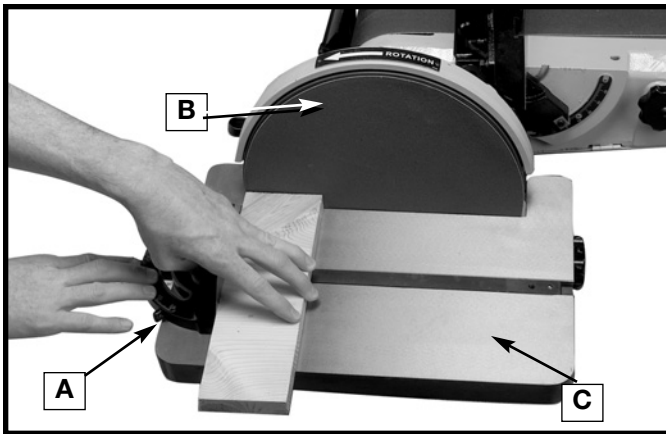

Fig. 48
When sanding the ends of narrow workpieces, use the sanding disc and an accessory miter gauge (A) Fig. 48. Move the work from the center to the left side (downward) of the sanding disc.
⚠ WARNING THE EDGE OF THE TABLE (C) FIG. 48 MUST BE POSITIONED A MAXIMUM OF 1/16" AWAY FROM THE SANDING DISC (B) TO AVOID TRAPPING THE WORK OR FINGERS BETWEEN THE TABLE AND THE SANDING DISC.